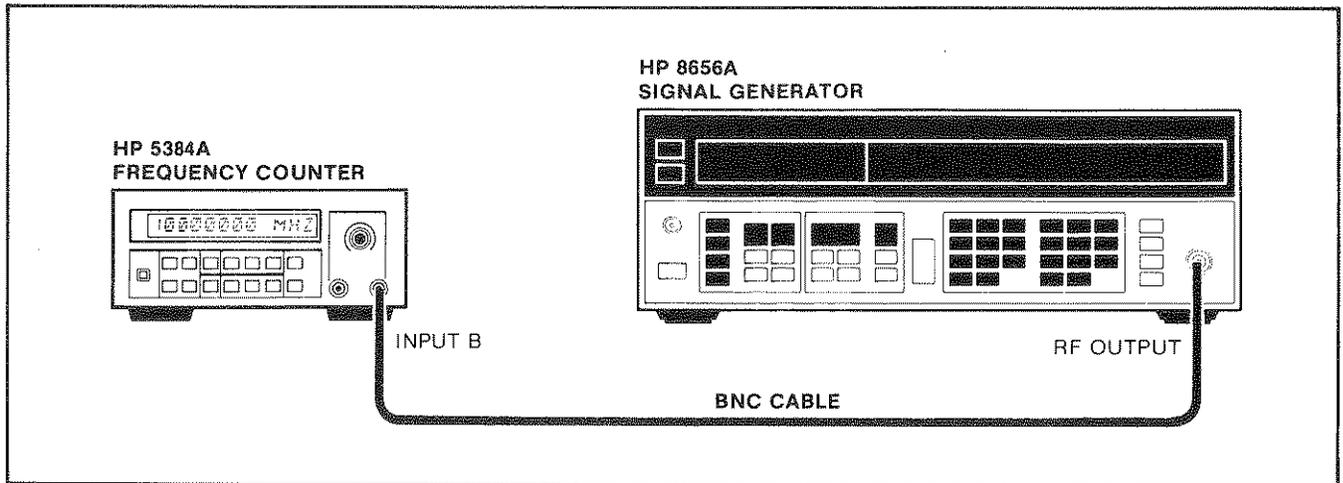

Figure 5-4. HP 5384A Channel B Input Amplifier Adjustment Setup
a. Connect the HP 8656A Signal Generator as shown in Figure 5-4.